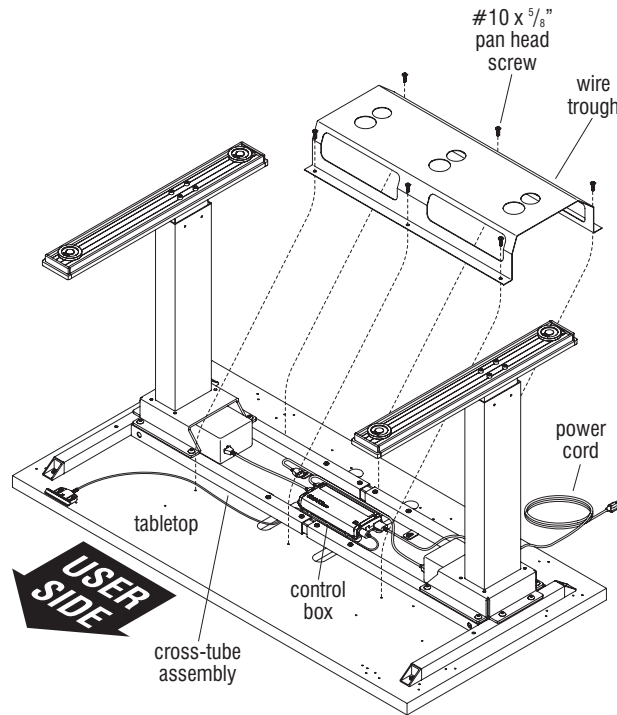

Figure 5 - Centered Wire Trough with Control Box Between Cross-Tube Assembly
Note: Control cables can be routed differently than shown. The control box can be mounted to the underside of tabletops 24" in depth between the cross-tube assembly (Figure 5). Control boxes mounting under tabletops 30" or 36" in depth can mount in one of three mounting locations. If the control box is mounted between the cross-tube assembly, reference Figure 5 for placement of the wire trough. If the control box is mounted behind the cross-tube assembly, reference Figure 6.
1. Align the wire trough mounting holes to the appropriate holes in the tabletop, making sure the larger cutouts on the trough are facing the user side of the table. Using six #10 x 5/8" pan head screws, secure the wire trough to the tabletop as illustrated (Figures 5 & 6).